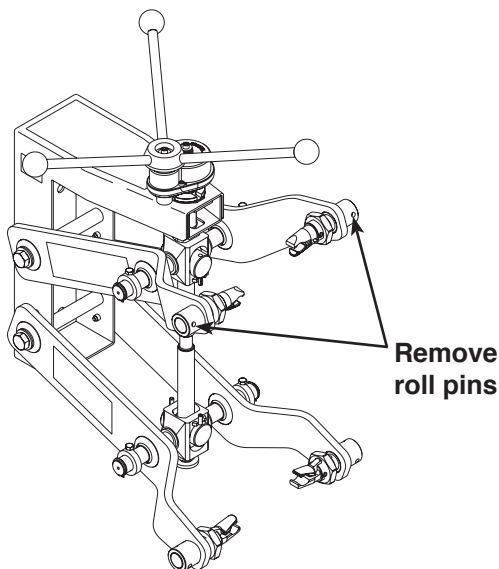

Figure 1
1. Remove the upper right and left jaws from the strut spring compressor by tapping out the roll pins. See Figure 1. Discard roll pins.